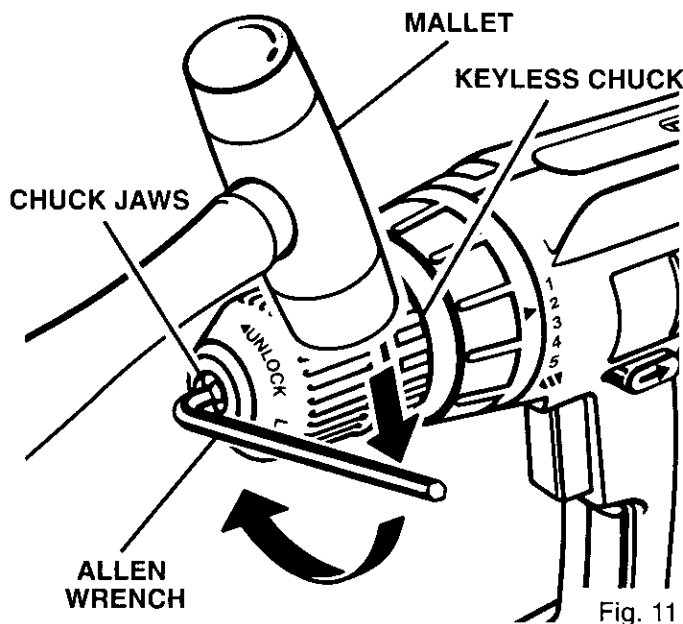

Fig. 11
See Figures 11, 12, and 13.
- Tap the allen wrench sharply with a mallet in a clockwise direction. See Figure 11. This will loosen the screw in the chuck for easy removal.